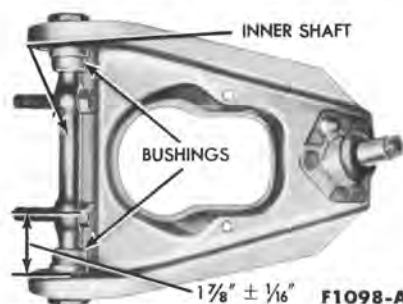

**FIG. 6—1961 and 1962 Upper
2. Position the shaft in the arm, and install the new bushings on the shaft and the arm. **Turn the bushings so that the shaft is exactly centered in the arm.** The shaft will be properly centered when located at the dimension shown in Fig. 6. **Position the bushings carefully to avoid damaging the O rings inside the bushings.**